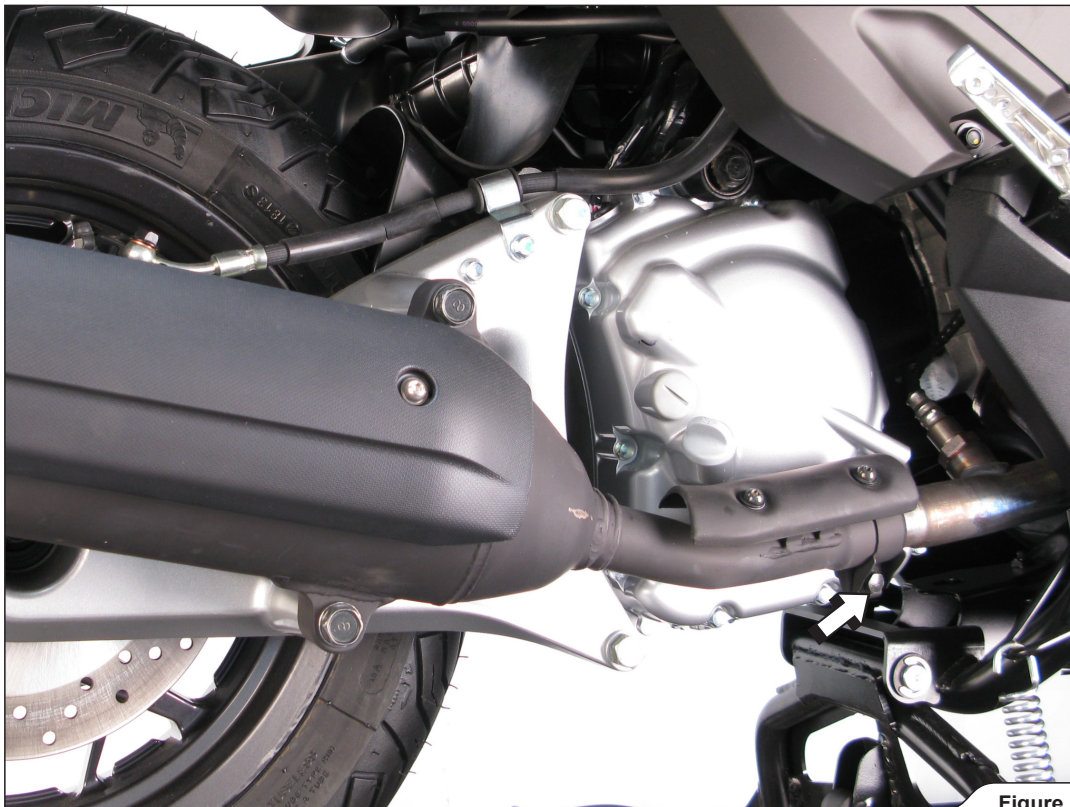

Figure 1
2. Loosen the marked clamp (Figure 1).